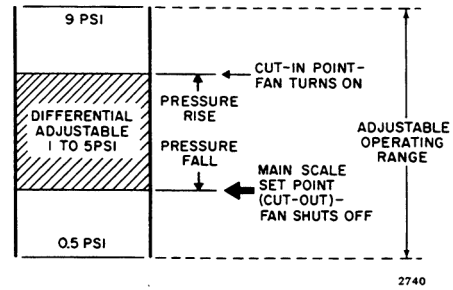

Fig. 9. PA404B (additive differential).
TO SET THE PA404B WITH ADDITIVE DIFFERENTIAL (SEE FIG. 9)
1. Set main scale indicator at desired cutout point by turning main scale set point screw until indicator (see Fig. 9) corresponds to pressure at which electric circuit should break.